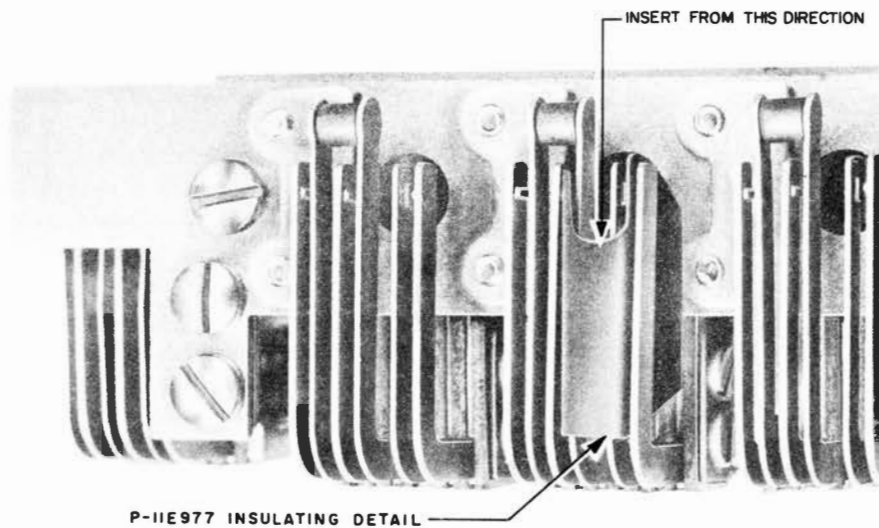

Fig. 9 — Part of 590 Series Key with P-11E977 Insulating Detail When Converted for Signaling
3.11 When converting a key to (nonlocking) signaling, remove the screw detail P-12A892 entirely from the plunger at the key position to be converted. Store the removed screws in the base of the telephone set; use friction tape to hold in place. Concentrator type sets require P-11E977 insulating detail to prevent the operation of the concentrator unit when keys are used for signaling. (See Fig. 9.) Slide a P-11E977 insulating detail, squared end first, between the contacts of the spring-pile adjacent to the key plunger. The insulating details are furnished with concentrator-type sets only.